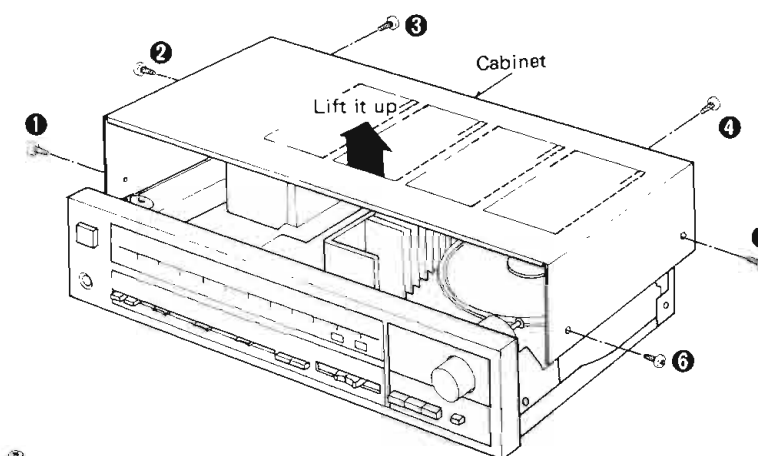

Fig. 1
1. Remove the 6 setscrews (Fig. 1: ①~⑥) of the cabinet.